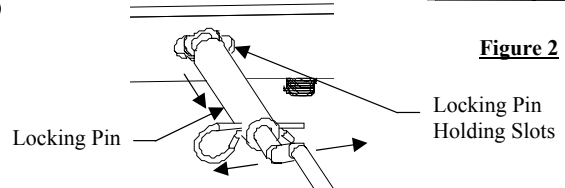
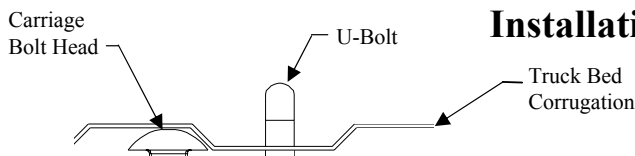

Figure 3
Figure 6
- 2B. After re-installing locking pin assembly, check for proper movement and holding slot engagement with the ball in place (see figure 3).
3. Install under bed supports with (4) vertical 5/8" bolts in rails.
8. Using the U-Bolt slots as a guide, drill four 9/16" holes in the bed. These holes must be in a lower bed corrugations to limit the amount of U-bolt showing above the bed (see figure 6).